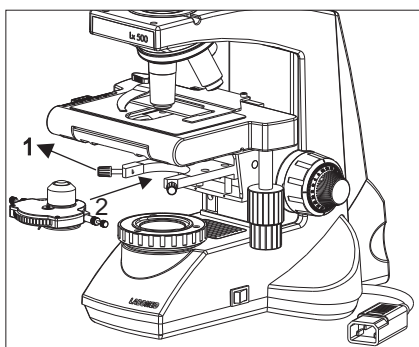

Fig. 6
1. Remove the condenser from its position by loosening the two thumb screws (1) on both sides of the condenser as shown in figure 6.
3. The long "push in to engage" thumbscrews (2) on both sides of the phase turret are provided for proper alignment of the phase ring. By disengaging these screws, the phase turret can be adjusted at any desired phase annulus (10x, 20x, 40x & 100x) by turning the thumbwheel to the desired position. There is also an '0' setting on the thumbwheel for bright field application